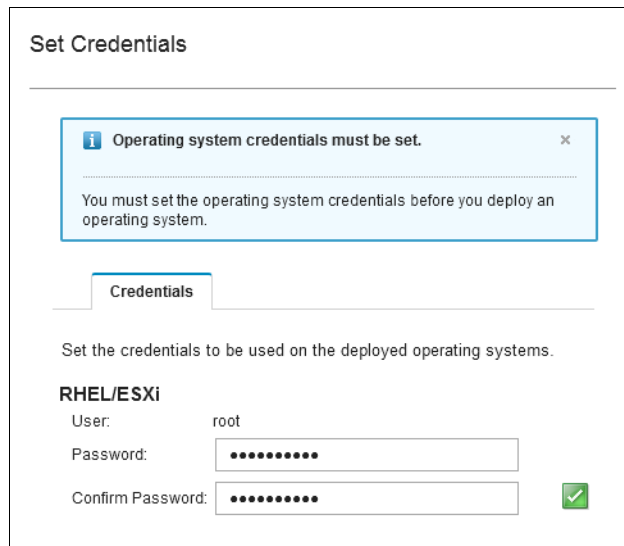

Figure 6-11 Root password request
5. You are prompted to set an administrator password when the OS is installed. Figure 6-11 on page 231 shows an example of deploying VMware ESXi 5.5.